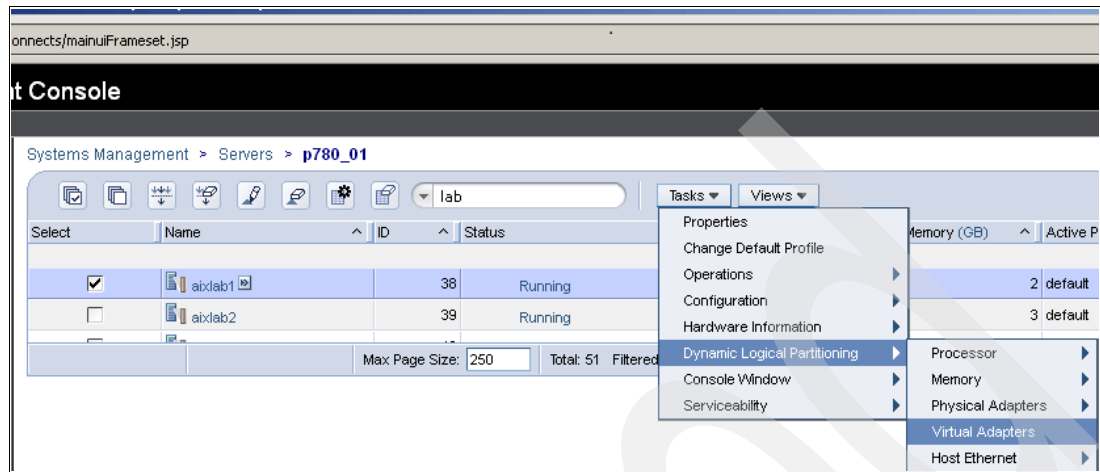

Figure A-2 Selecting virtual adapters
4. Select the LPAR. Click **Tasks** → **Dynamic Logical Partitioning** → **Virtual Adapters**. See Figure A-2.